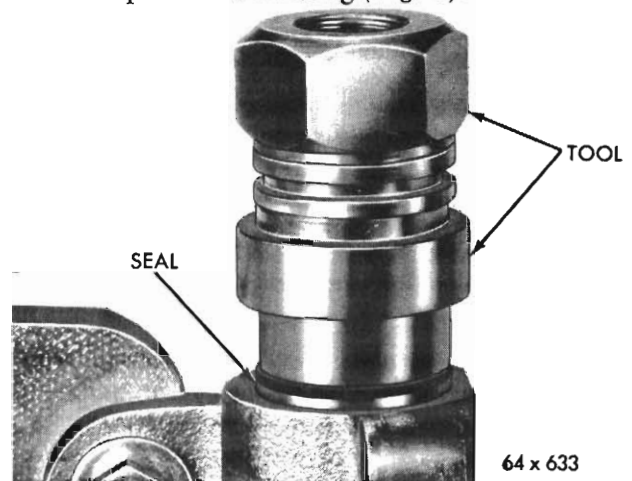

Fig. 6 – Installing gear shaft inner oil seal
(1) Install new gear shaft inner oil seal in the steering gear housing with adaptor E19C20E of Tool E19C20A as follows:—
- a. Place the long step of adaptor against the new seal, and slide it over the shaft with seal lip towards housing (Fig. 6).